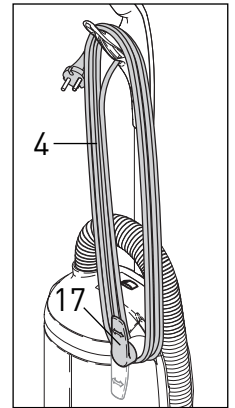

Figure 4
Starting The Machine - Figures 4 & 5
1. With the power switch (3) in the OFF position, turn the cable hook (17) to the left or right to release the cable (4). Lift the cable off the upper cable hook - see figure 4.